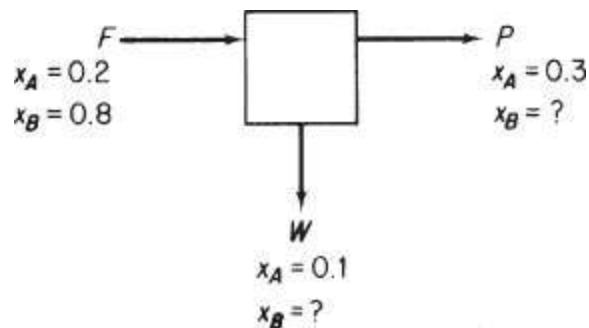

Figure P3.2.3
**3.2.3. Examine the process in Figure P3.2.3. No chemical reaction takes place, and x stands for mole fraction. How many variables are unknown? How many are concentrations? Can this problem be solved uniquely for the unknowns?